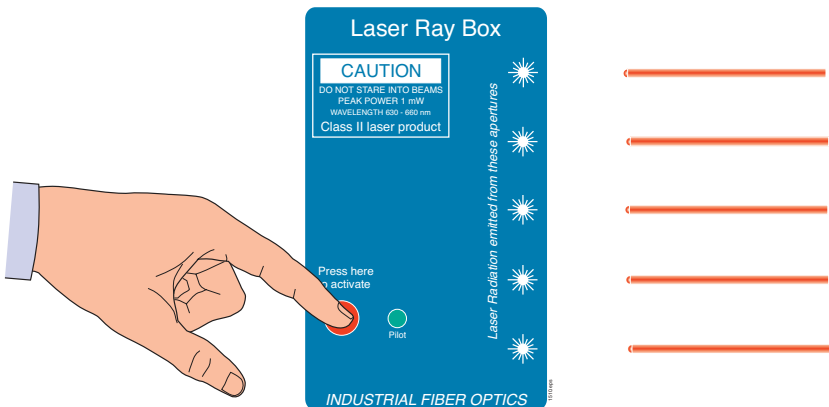

Figure 6. Laser Ray Box emitting 5 parallel light rays
5. You should now see 5 parallel laser beams being emitted from the apertures on the side of the Laser Ray Box, as shown in the **Figure 6**. If you do not see 5 laser beams please see the section titled “Troubleshooting.”